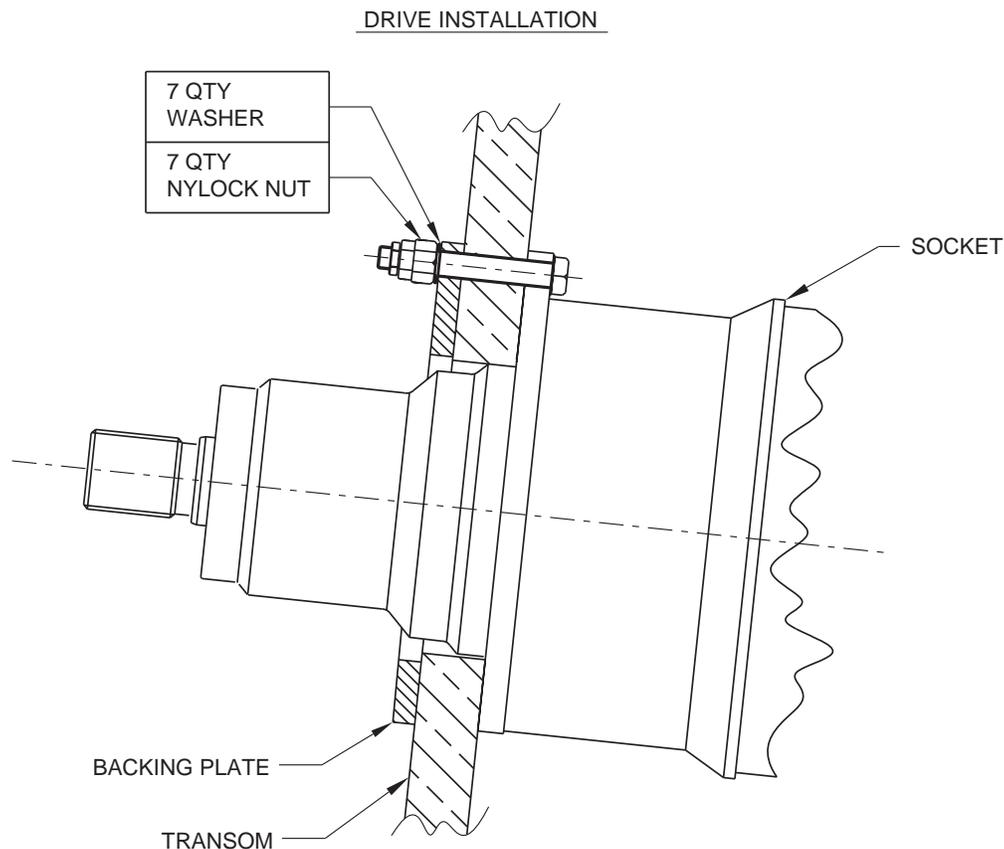
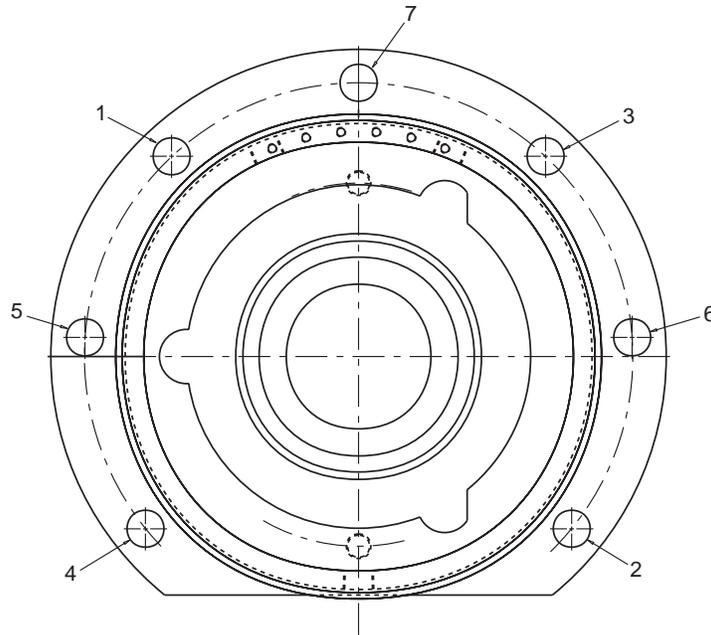

Figure 8. Drive Installation
Figure 9. Torque Sequence for Socket to Hull
8. Remove the drive unit and drill (7) 28.5 mm (1.12 in.) diameter holes and (2) 28.5 mm (1.12 in.) lubrication holes using template 1017597, page 1. Holes should be drilled perpendicular to the transom.
9. Mount the basic drive unit (trim and steering cylinders not installed) using the backing plate and 1 in. diameter stainless steel bolts, nylock nuts and washers as shown in Figure 8. Uniformly torque the nuts to 175 - 200 N-m (130 - 150 ft-lbs) using the tightening sequence on Figure 9. Apply a generous layer of marine transom sealant under the bracket and in the fastener holes to prevent water leakage. Do not turn the bolts when tightening them. Hold the bolts in place and only turn the nuts. If this procedure is not followed, leaks can develop in the holes.